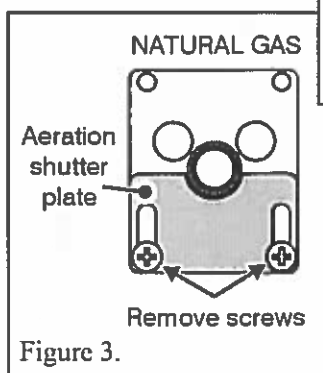

Figure 3.
3. Remove the aeration shutter from the Natural gas burner by unscrewing and removing the two screws (See figure 3).